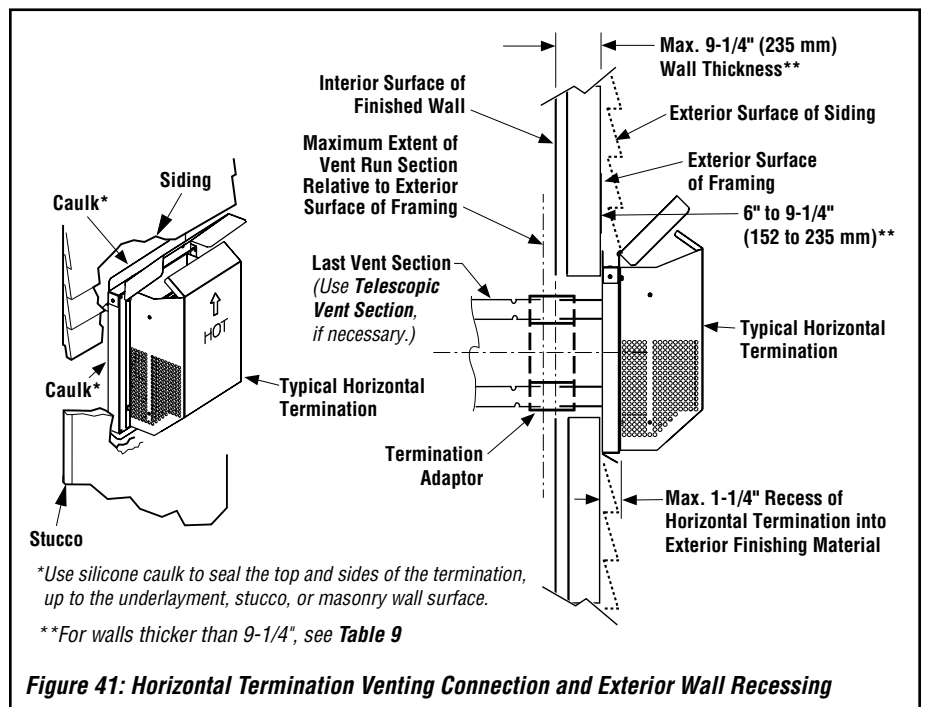

Figure 41: Horizontal Termination Venting Connection and Exterior Wall Recessing
Note: For walls thicker than those shown in **Figure 41**, see **Table 9**, which lists additional venting components needed (in addition to the termination and adaptor) for a particular range of wall thicknesses.
See **Figure 41**. Attach the **termination adaptor** (provided with the termination) to the vent section (or telescoping vent section or elbow) in the same manner as the other vent components (see "Attaching Secure Vent® Components" on **Page 13**).
b) Orient the termination housing with the arrow pointing UP (see **Figure 41**).
NOTE: The horizontal termination must not be recessed into the exterior wall or siding by more than 1-1/4" (32 mm), as shown in **Figure 41**.